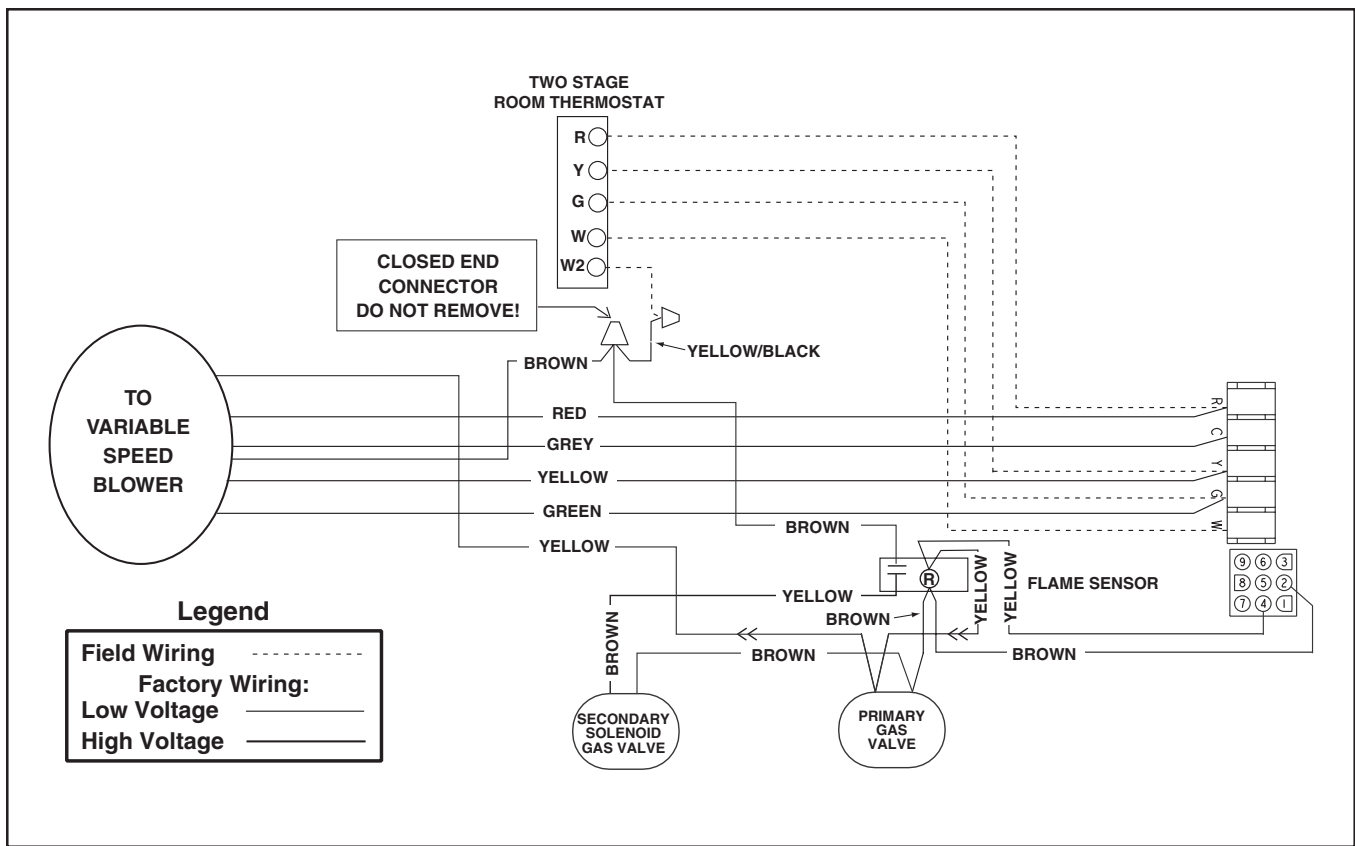

Figure 8a. Two Stage Configuration
1. *Two stage thermostat configuration* – For this installation a two stage heating thermostat is used. **CAUTION:** Disconnect yellow/black wire from primary gas valve. Remove female connector from yellow/black wire and strip insulation from end. Connect stripped yellow/black wire to (W2) from the thermostat. (See **Figure 8a**). The first stage bulb (W1) is connected to W on the furnace control board. On a call for first stage heat, the furnace will operate at low fire and the blower will run at a lower speed. On a call for second stage heat, the furnace will operate at high fire and the blower will run at a higher speed. The furnace will stage between low fire, high fire, and off depending on the thermostat signal.
Install the thermostat per the manufacturer's instructions. The low voltage (24 volt) connections from the thermostat are made at the terminal strip on the control board in the furnace. See **Figures 8a-8e** for the proper connections for heating only (four wire) and heating/cooling (five wire) applications. The recommended minimum wire gauge for thermostat wiring is shown in **Table 10**.
3. Connect the cable leads to the subbase or thermostat terminals and to the unit's low voltage connector on the furnace board as shown in **Figure 8a-e**. A system wiring diagram is also provided on the inside of the louvered control access panel and in **Figure 9a-b** of these installation instructions.